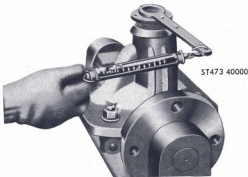

Fig. 11
- (5) The formal adjustment of the drive pinion, bearing and pre-load. After the fixing position of drive pinion is decided as mentioned in the previous paragraph, take off the pinion nut & companion flange to mount again the drive pinion bearing spacer (distance piece) and nut. Tighten up the nut as Fig. 11 by using torque wrench at the regular torque of 100-120ft./per lbs. The preload supportedly the bearing in this case is different according to the condition of the bearing adjusting shim inserted. The more of the shim inserted, much the play of pinion to the direction of axle is increased. The less of the shim inserted, the more the bearing tightened by the previously mentioned nuts and cause it to be burned if left and turned as it is. Therefore, for readjustment of the bearing preload in this case, it must be adjusted by increasing or decreasing the number of four kinds of "